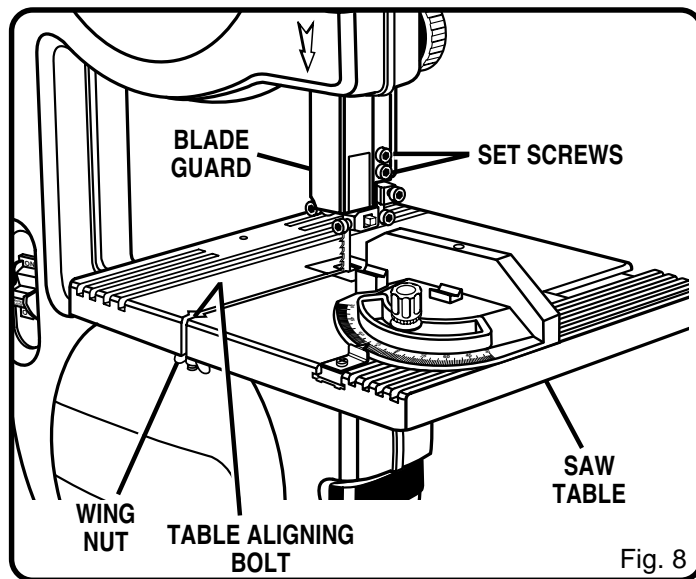

Fig. 8
See Figures 8 and 9.
- Loosen and remove the wing nut and table aligning bolt from the saw table. See Figure 8.
- Loosen the two set screws that hold the blade guard in place using the 4 mm hex key provided then remove the blade guard. See Figure 8.